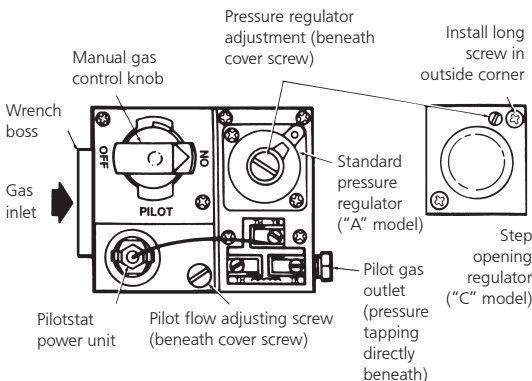

Figure 8. Top view of standard capacity gas control.
- a. Remove pilot adjustment cover screw. Refer to Figure 8.